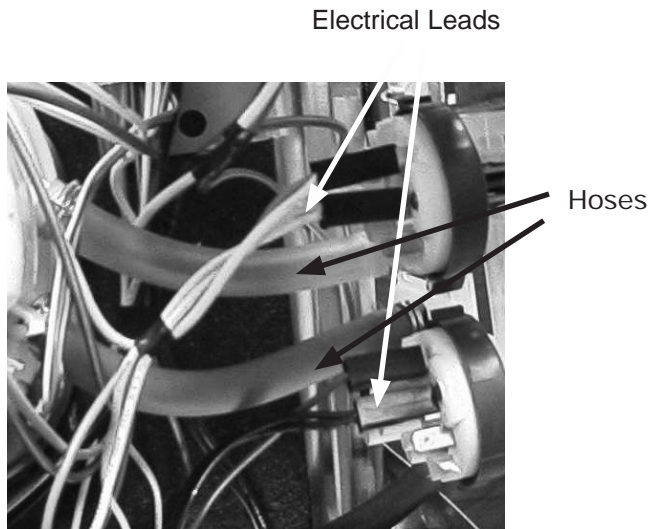

FIGURE 40
2. Remove hoses and electrical connections to switches. (See Figure 40)